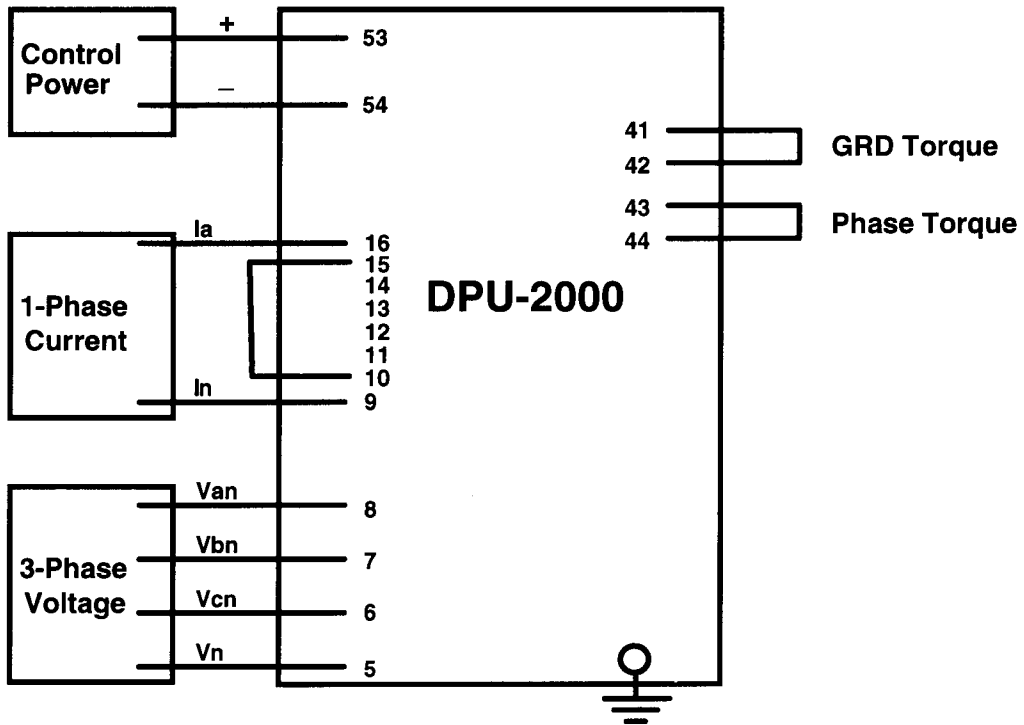

Figure 34. Test Circuit for 67P and 67N Functions
2. Apply a fault current of 12 A to the relay. This current is 2x the default pickup current of 6.0 A. The relay should trip between 14.5 and 16.7 seconds (derived from the Extremely Inverse curve, Figure 34, by using the default values in Table 14).
- k. Apply the following test values as shown in Figure 34:
l. The relay should trip on 67N directional overcurrent between 0.28 and 0.32 seconds (from the Extremely Inverse curve, Figure 34). This is indicated by the ØA LED lighting with no other targets lit. Check the fault records to confirm the 67N trip.
3. The relay should trip between 14.3 and 16.3 seconds (from the Extremely Inverse curve, Figure 34), and only